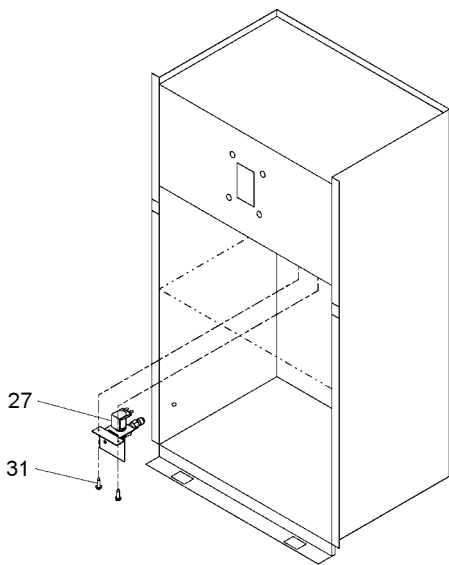

FIG. 8
2. **Mount back panel** using (2) #8 x .50" (13mm) pan head screws and (2) large clips provided.
3. **Secure fountain body** through back panel to wall box using (4) 5/16" -18 x 1.75" (44mm) hex head bolts and (4) 5/16" - 18 nuts provided. (Typical each fountain).
4. **Attach solenoid valve assembly** to the mounting box. See figure 8.